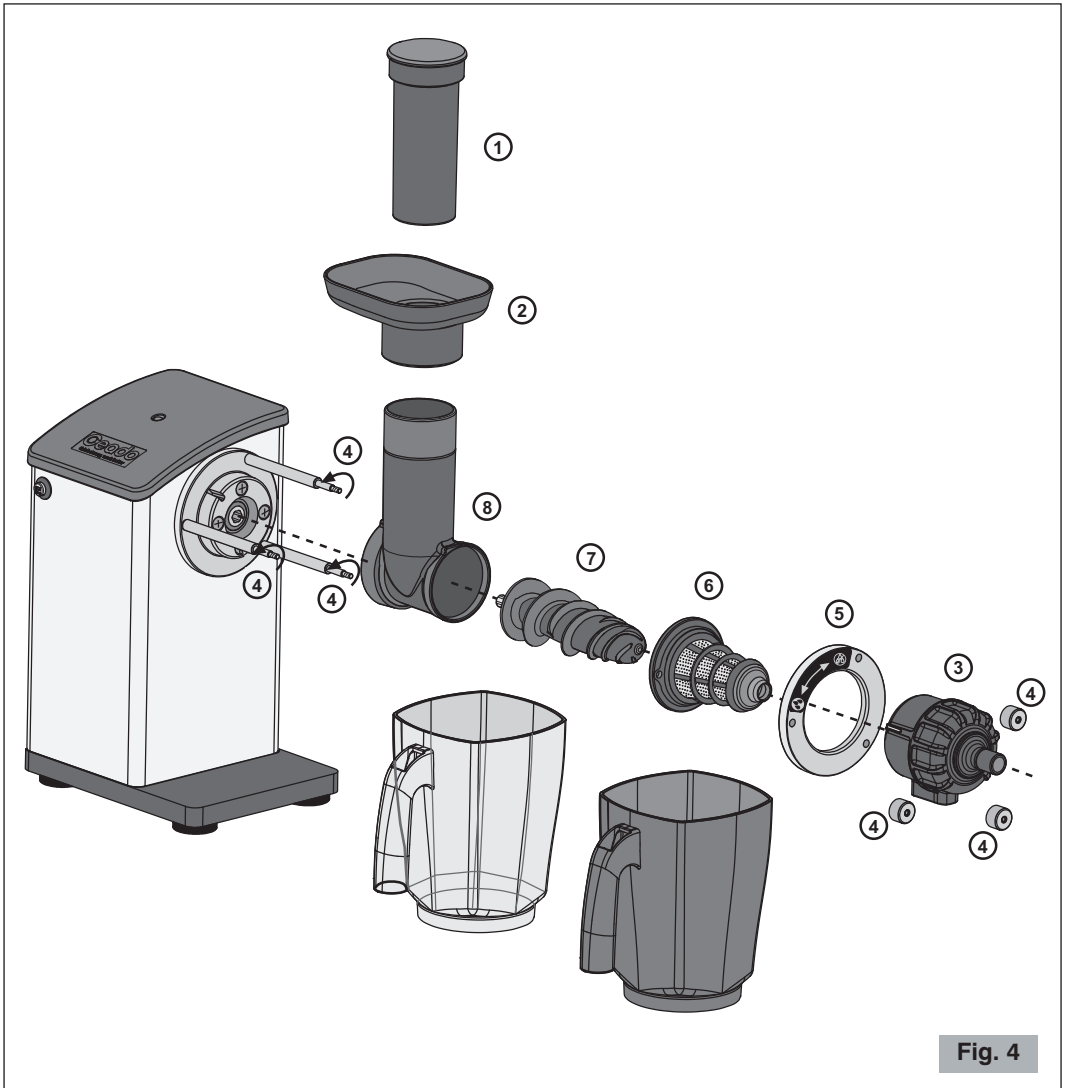

Fig. 4
1 Remove the jugs and disassemble the components in the order shown in the figure (Fig. 4).
- 3** Reassemble in reverse order (Fig. 4).